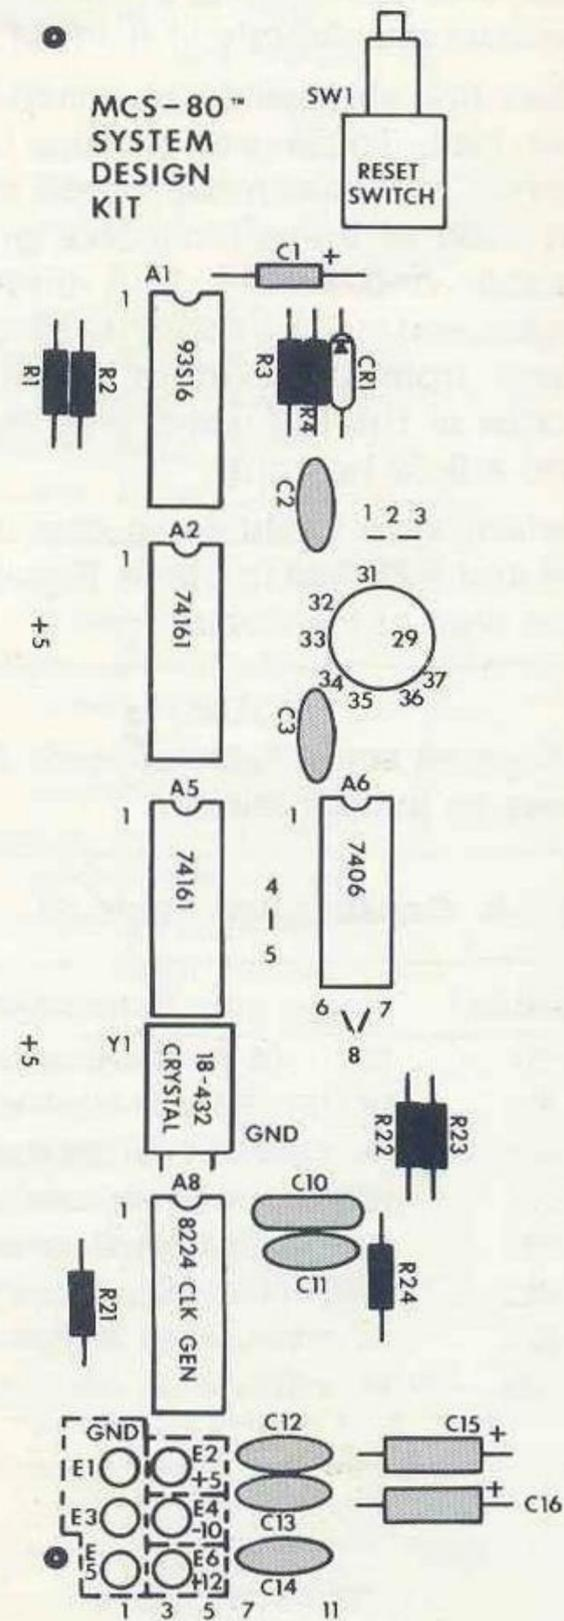

Figure 2-4. Construction Figure #2.
- ☑ Solder capacitors C1-C3 and C10-C16 in place (Figure 2-4). C1 is a 1 uf, 50V tant. C2, C3, and C11-C14 0.01 uf ceramic. C10 is a 10 pF mica. C15 and C16 are 22 uf, 15V tant.